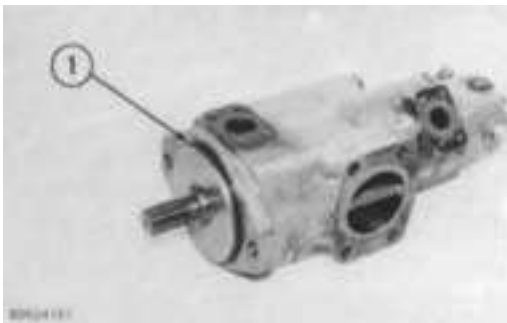

FIGURE 7-8
- Remove the O-ring (1, Figure 7-8) from the pump body.